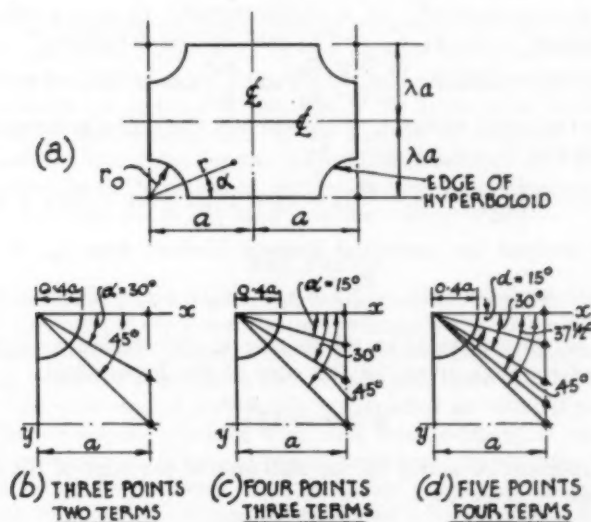

Fig. 2.
The deflection u in equation (2) can be divided into two parts u_0 and u_1 such that $u = u_0 + u_1$, in which u_0 is a solution which satisfies (2) and u_1 is the solution which satisfies (2) when it is equated to zero. Text-books on elasticity give expressions for u_1 in terms of functions of r and α (Fig. 2a) involving a complex expression which is not reproduced here but is given in Dr. Haas's book. The solution of the differential equation is given as a series, the number of terms in which corresponds to the number of points chosen on the boundary of the quarter of the panel of the slab shown in (b), (c), and (d) in Fig. 2. At these points, the number of which should be as small as possible for the solution of practical problems, the boundary conditions have to be satisfied. The series is in general convergent, but for a small area near the middle of the panel convergence is confined to a limited number of terms. For the midpoint of the panel less than four terms of the series should be used. In the square panel in Fig. 2b only three points ($\alpha = 0, r = a$; $\alpha = 30 \text{ deg.}, r = \frac{2a}{\sqrt{3}}$; and $\alpha = 45 \text{ deg.}, r = a\sqrt{2}$) are shown. Therefore two terms only of the series are used and give the expression
The constants A and C relate to the centre-lines of the panels of the slab (Fig. 2) and the constants B and D to the edge of the hyperboloid ($r = r_0$). A_0 and C_0 can be expressed in terms of B_0 and D_0 . For a uniformly-distributed load, for each of the three points defined in the foregoing and shown in Fig. 2b, numerical values of these factors can be derived in terms of a in the following order: $D_0 = -0.159310a^2$, $B_0 = +0.001672a^4$, $C_0 = +0.206367a^2$, and $A_0 = -0.033419a^4$. A_1, A_2, C_1 , and C_2 can also be determined.